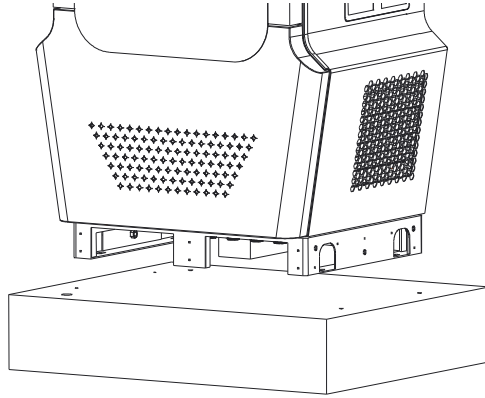

Figure 14. EVSE Placement
1) Lift the charging station over the concrete base. See figure 14.